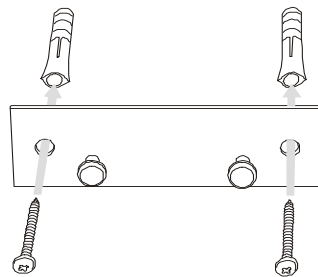
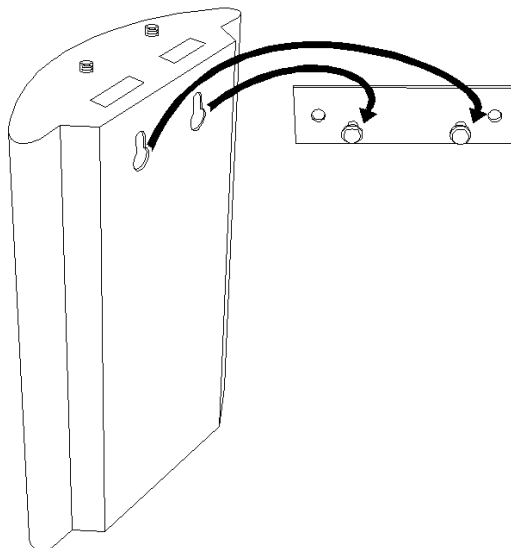

Fig. 3 – Gateway Holder Wall-Mounting
Fig. 4 – Gateway Hanging
- The 2N[®] BRI Lite is designed for mounting on a vertical surface. For this purpose a wall-mounting holder is available. Just fit the holder with dowels and screws (Fig. 3) to the wall and hang the gateway as shown in Fig. 4.